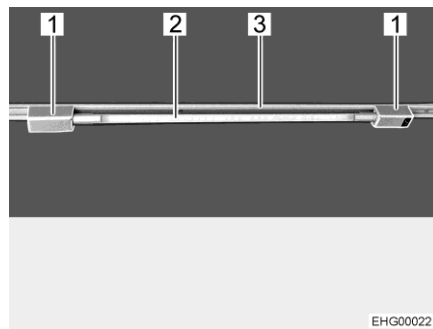

Fig. 33 Fluorescent tube
- Insert both brackets (Fig. 33,1) into the rail (Fig. 33,3). In order to do this, turn bracket through 90°.
- Plug lamp body (Fig. 33,2) into one of the brackets.
- Turn lamp body handle (Fig. 33,2) until the desired lighting effect is achieved.